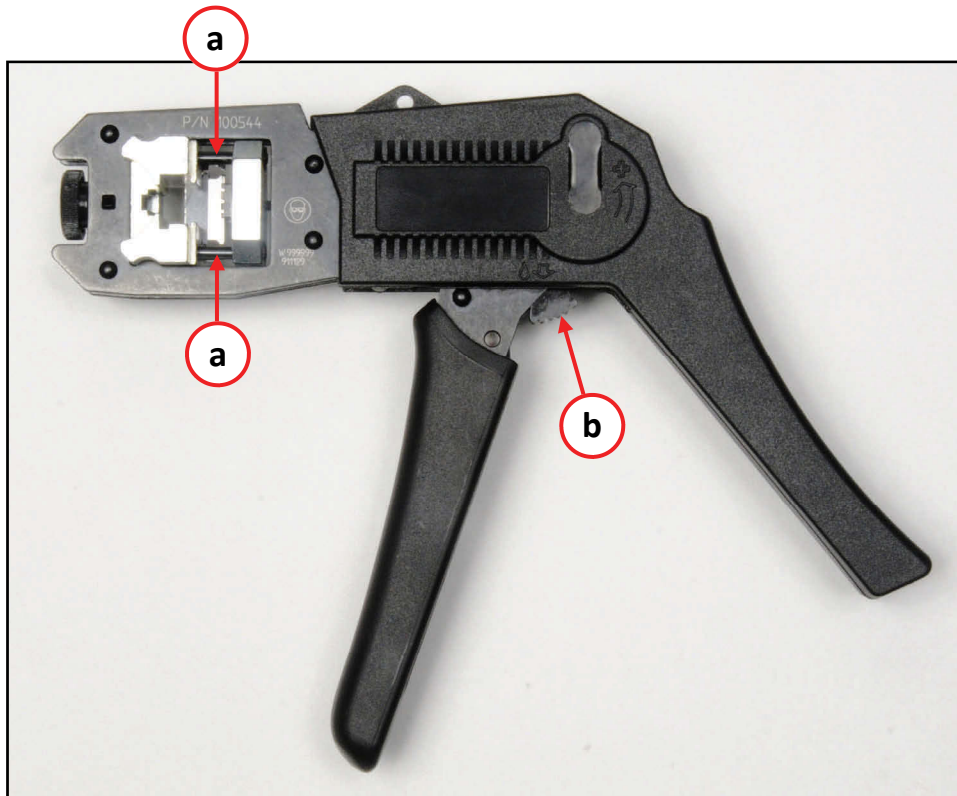

Figure 5
- 2) See Figure 5 for special lubrication requirements on moving tool parts. The following points should be oiled every 500 crimp cycles or every 3 months.